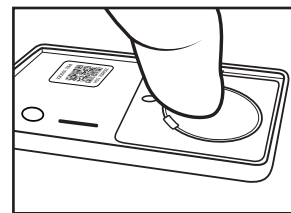

FIGURE 6
2. Once the controller is ready to add your device, remove the top cover of the sensor (see figure 6).
4. When installing a new battery, ensure proper polarity — plus side up. Insert the lower end first so the battery is under the side ribs (see Figure 6). Press down on the upper end to secure the battery in place.